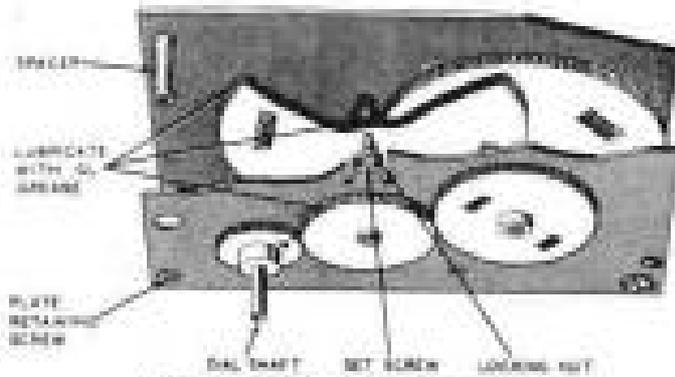

Fig. 5. Lubrication of Dial Drive Mechanism
**LUBRICATION** - Mechanical parts to be lubricated are illustrated in Figures 5, 6, and 7. Use a good grade of light lubricating grease and light machine oil. Extreme care should be exercised to prevent grease or oil from splashing on the electrical components, wiring, and turret, as arcing contacts during lubrication. Frequent oiling of the tuning capacitor bearings will protect the points most subject to wear.